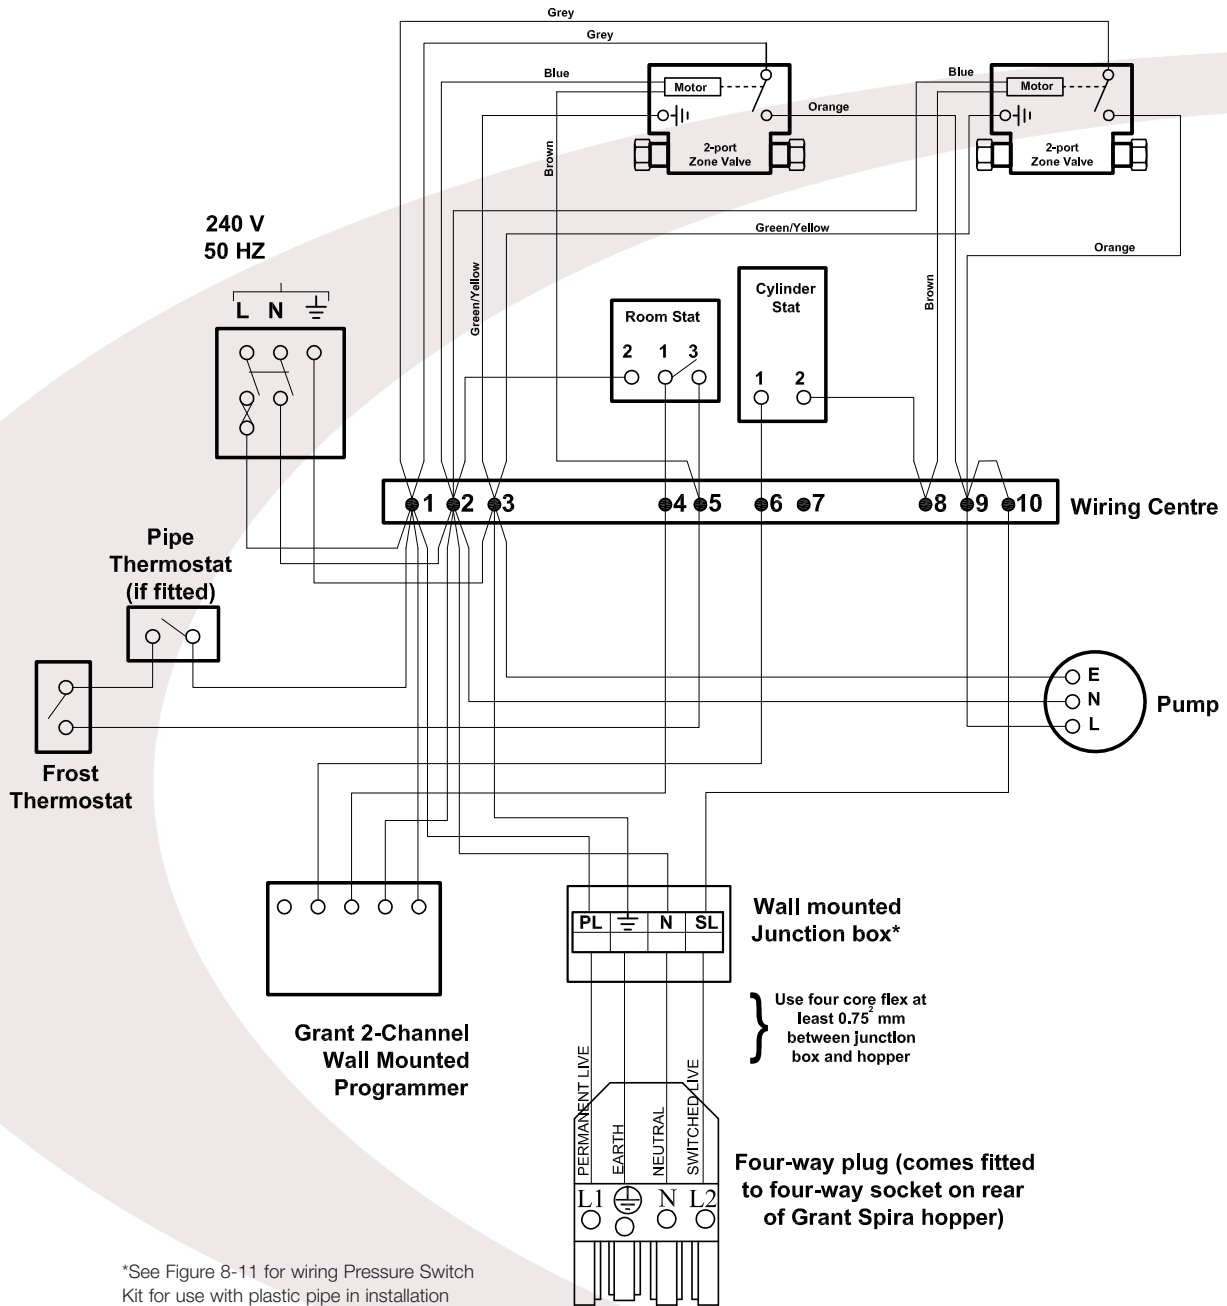

Figure 8-9: Heating system controls – S-plan type system connection diagram
The boiler can be used in conjunction with typical heating control system, e.g. 'S-Plan' or 'Y-Plan' type controls. Refer to Figures 8-9 and 8-10 and for typical control system wiring diagrams.
The pipe thermostat should be located on the boiler return pipe, and set to operate at 25°C. Refer to Figures 8-9 or 8-10 as appropriate for connection details.
The boiler requires a permanent mains supply and a switched live supply to control the boiler. For details of Controls refer to Section 8.4 and Figures 8-9 or 8-10.
- Connect the other end of the 4-core flex to the either the heating system controls wiring centre or junction box. Refer to either Figures 8-9 or 8-10, as appropriate, for details of the connections required.